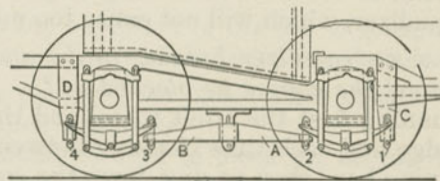

Fig. 374b. Broken Equalizer and Safety Straps.
A. By safety-strap or check pieces as shown in *CD*, Fig. 274a, instead of being left unprotected as in Fig. 374b.